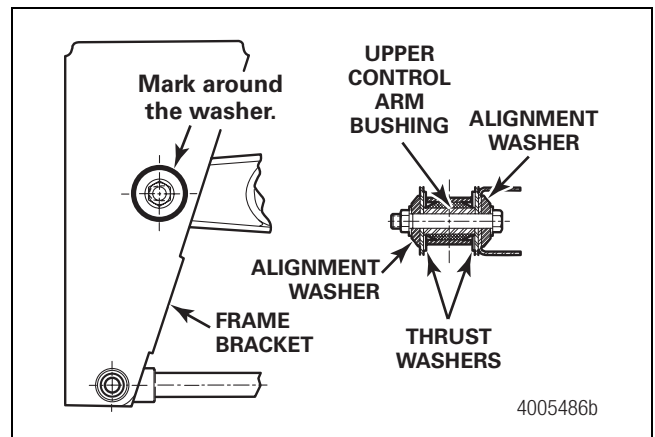

Figure 6
4. Apply a mark around the alignment washers. Figure 6.